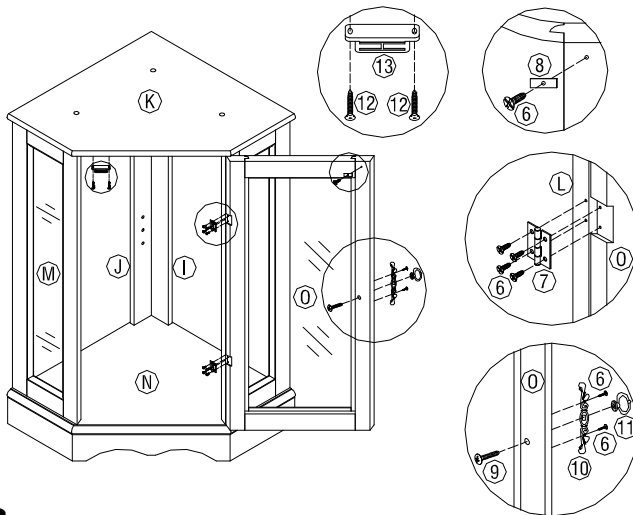

Figure 8
INSERT FLAT HEAD SHORT SCREW (6) THROUGH MAGNET PLATE (8) AND TIGHTEN INTO PREDRILLED HOLE ON LOWER DOOR (O). INSERT FLAT HEAD SHORT SCREWS(6) THROUGH METAL PLATE(10) AND TIGHTEN INTO PREDRILLED HOLES ON LOWER DOOR(O) .INSERT SMALL MACHINE SCREW(9) THROUGH PREDRILLED HOLES ON LOWER DOOR(O),METAL PLATE (10) AND TIGHTEN INTO HANDLE(11). INSERT FLAT HEAD SHORT SCREWS(6) THROUGH THE HOLES ON HINGES(7) AND FIGHTEN INTO PREDRILLED HOLES ON EDGES OF LOWER RIGHT SIDE PANEL(L) AND LOWER DOOR(O).INSERT ROUND HEAD SCREWS(12) THROUGH END OF MAGNET(13) AND TIGHTEN INTO PREDRILLED HOLES ON UNDERSIDE OF LOWER SHELF(K). AS SHOWN IN FIGURE8.